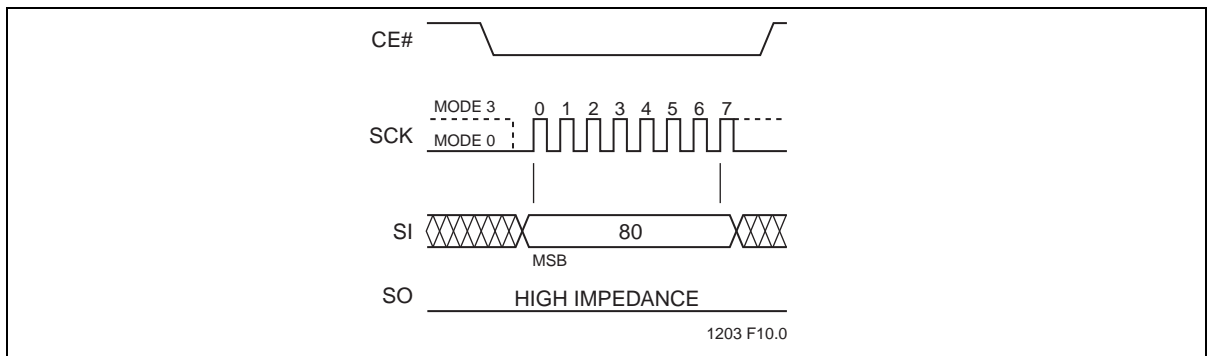

Figure 11: Disable SO as Hardware RY/BY# during AAI Programming
The 8-bit command, 80H, disables the Serial Output (SO) pin to output busy status during AAI-Word-program operation, and re-configures SO as an output pin. In this state, the SO pin will function as a normal Serial Output pin. At this time, the RDSR command can poll the status of the Software Status Register. This is shown in Figure 11.